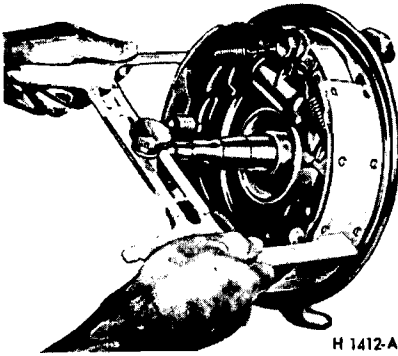

FIG. 14—Measuring Shoes
2. Reverse the tool as shown in Fig. 14 and adjust the brake shoe diameter to fit the gauge. Hold the automatic adjusting lever out of engagement while rotating the adjust-